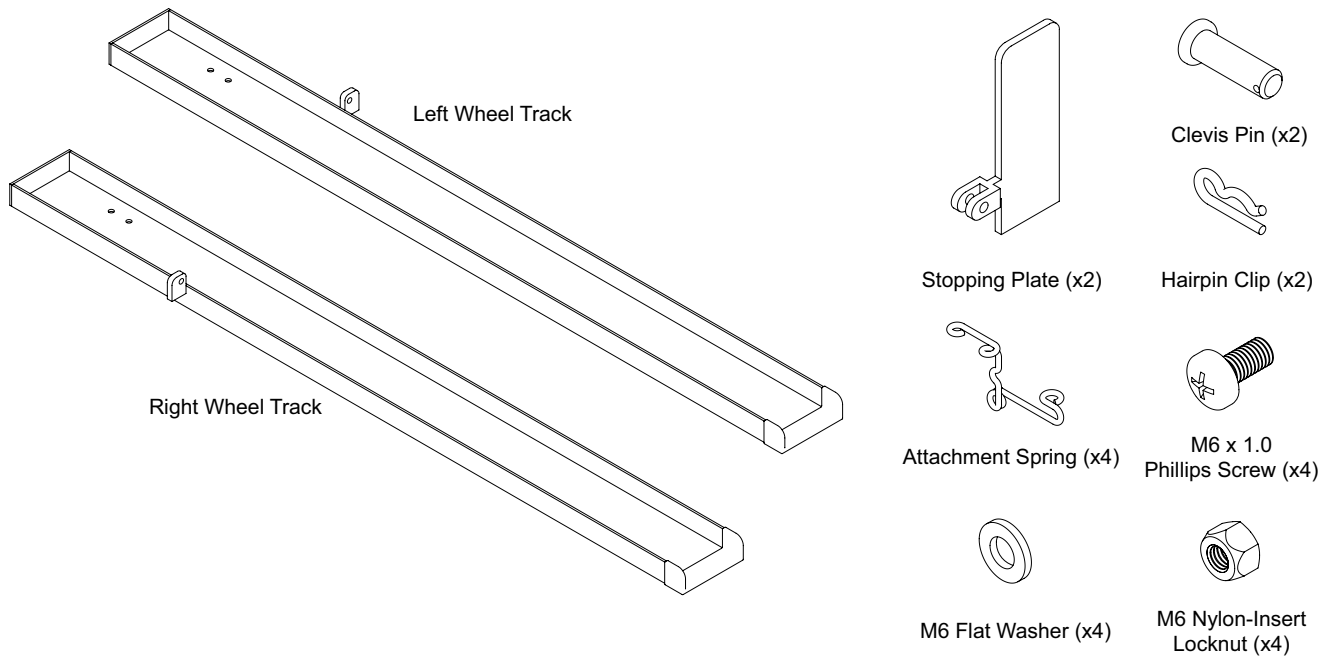

Figure 1 - Push Mower Adapter Nomenclature
1. Remove the product from packaging, ensure all components are accounted for (see figure 1).